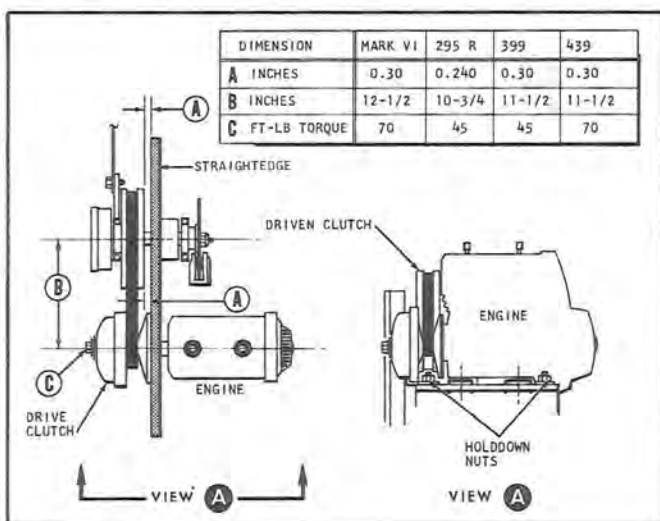

Figure 6
NOTE: During reassembly, apply proper torque to the clutch bolt as shown in figure 6.
- Loosen the engine holddown nuts securing the engine supports to the engine mount straps as illustrated in figure 6.
- Place a straightedge on the fixed face of the drive clutch and move the engine until the offset between the straightedge and the front and rear edges of the driven clutch is as shown in figure 6. Rotate driven clutch 90-degrees and repeat procedure.
NOTE: Figure 6, Illustrated Parts List section of this manual contains a detailed exploded view of the engine and support assembly showing all attaching hardware. For engine maintenance instructions, refer to the engine manual.